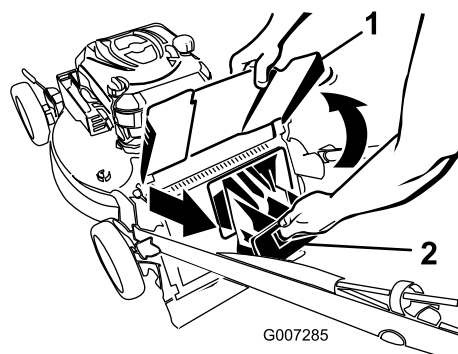

Figure 23
2. Raise and hold up the discharge deflector (Figure 23).
3. Pull out the rear discharge plug (Figure 23).